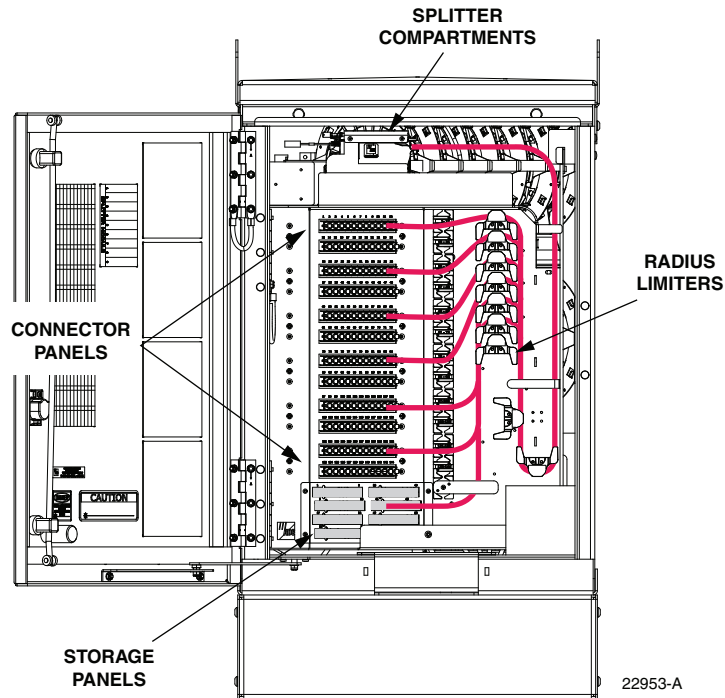

Figure 42. Routing Splitter Output Fibers
3. Use the radius limiters on the right side of the cabinet to store any excess fiber slack. Refer to Figure 42 for the routing guidelines.
6. Use the radius limiters on the right side of the cabinet to store any excess fiber slack. Refer to Figure 42 for the routing guidelines